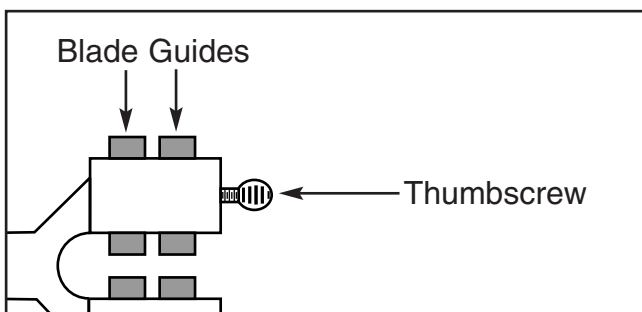

Figure 23. Blade guide assembly.
2. Secure the blade guides by screwing the thumbscrews into the threaded holes that intersect the blade guides as shown in **Figure 23**.